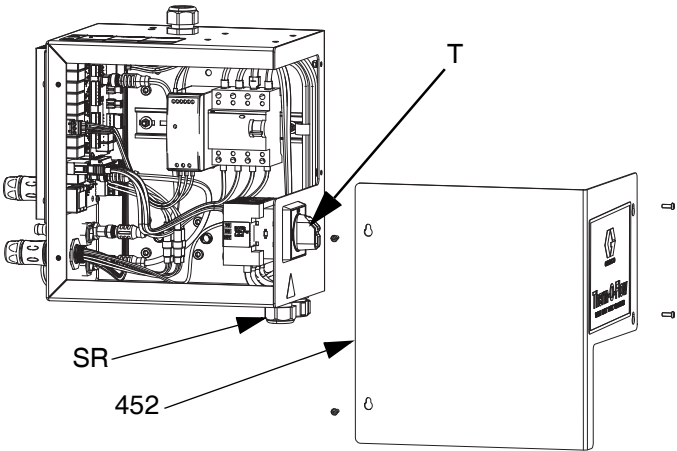

FIG. 9
3. Loosen the screws and remove the cover (452) on the Heat Control Box (S). See FIG. 9 on page 24.
4. Remove the two screws (433) and cover (457) from the bottom of the Heat Control Box (S).